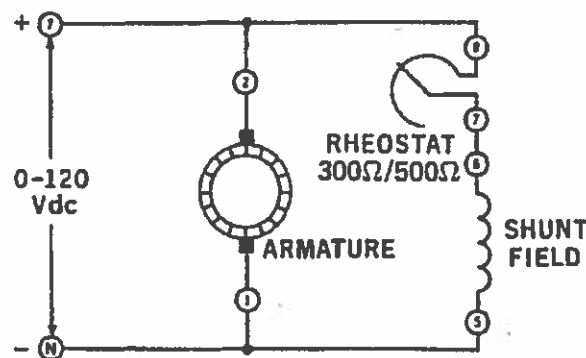

Figure 12-4.
- ✓ 12. Connect the circuit shown in Figure 12-4. Notice that the rheostat is in series with the shunt field, and that this combination is in parallel with the armature, across the input voltage.
☒ 16. Interchange the connection leads to the power supply. Your circuit should be the same as the one shown in Figure 12-4. Now reverse the connections to the armature only.